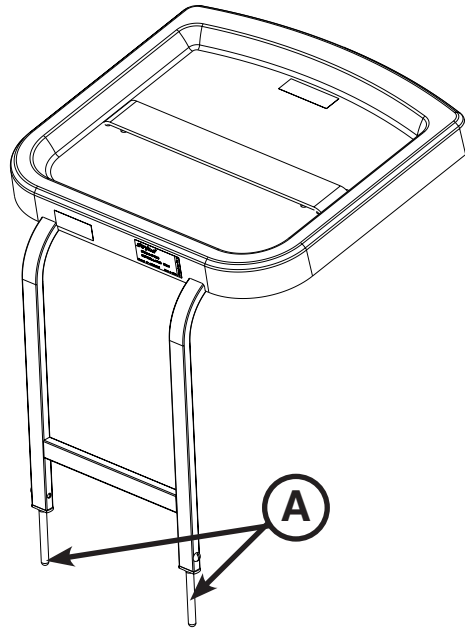

Figure 9.1: Defibrillator Tray
To install the defibrillator tray, insert the pins (A) on the defibrillator tray into the footboard sockets at the foot end of the stretcher as shown in Figure 9.1. Use the strap to secure the equipment to the tray.